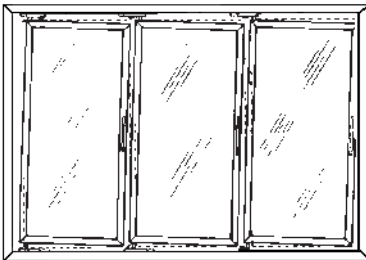

Figure 9
- After installation, if door appears to sag, refer to Figure 9 , Ardcó's adjustable hinging features will allow this situation to be corrected.
- To correct the problem in Figure 9 , shift the top mounting plates to the left and the bottom mounting plates to the right.